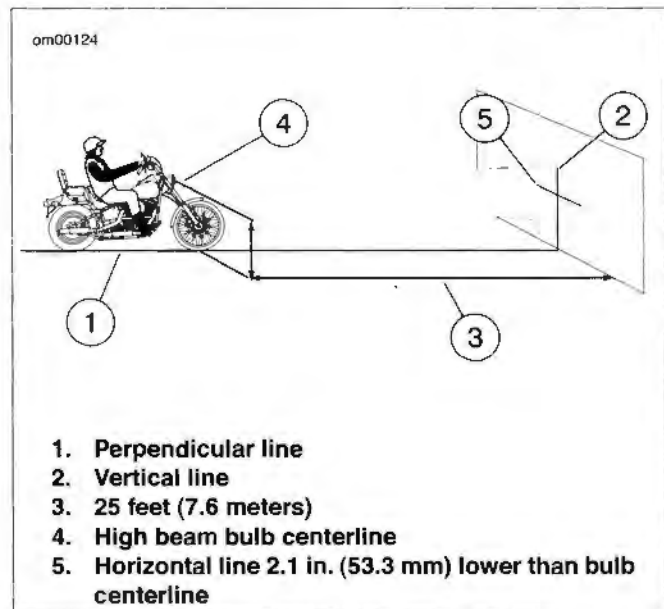

Figure 1-53. Headlamp Alignment
See Figure 1-53. To aid in properly placing the motorcycle, a perpendicular line (1) can be drawn on the floor. For best results, choose an area with minimum light.
3. Draw a vertical line (2) on the wall.